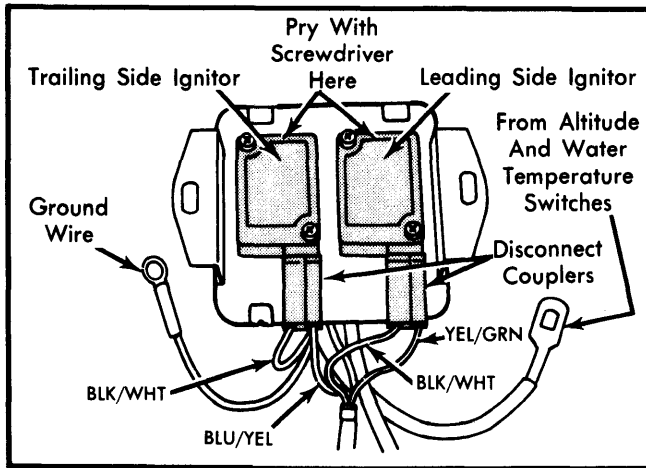

Fig. 6 Removing Ignitors from Base
4) To replace ignitors, disconnect couplers from ignitor leads and remove ignitor assembly. See Fig. 6. Grip coupler (not wires) and remove from each ignitor. Loosen ignitor attaching screws. Insert thin screwdriver between ignitor and aluminum base plate (on end of ignitor opposite coupler connections), and pry upward on ignitor a little at a time. Remove from plate. Clean ignitor and plate mounting surfaces and install